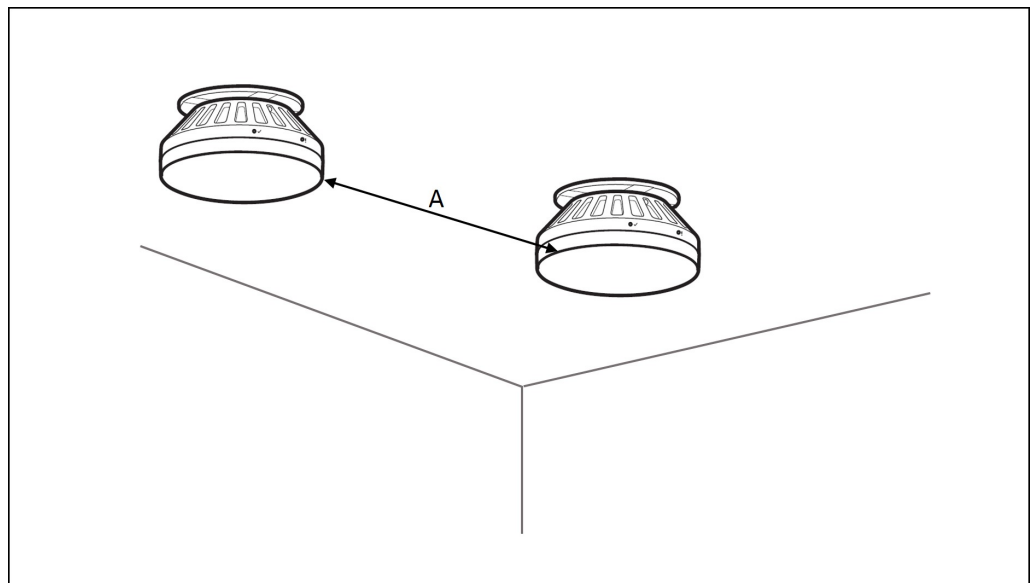

Figure 11 Minimum Distance To Other RDs
To minimize radio disturbances, the minimum distance (A) between RDs of different frequency bands is 0.03 m (see Figure 11 and Table 12). The distance between RDs is measured from the lower inner edge of one RD to the lower inner edge of the other RD.